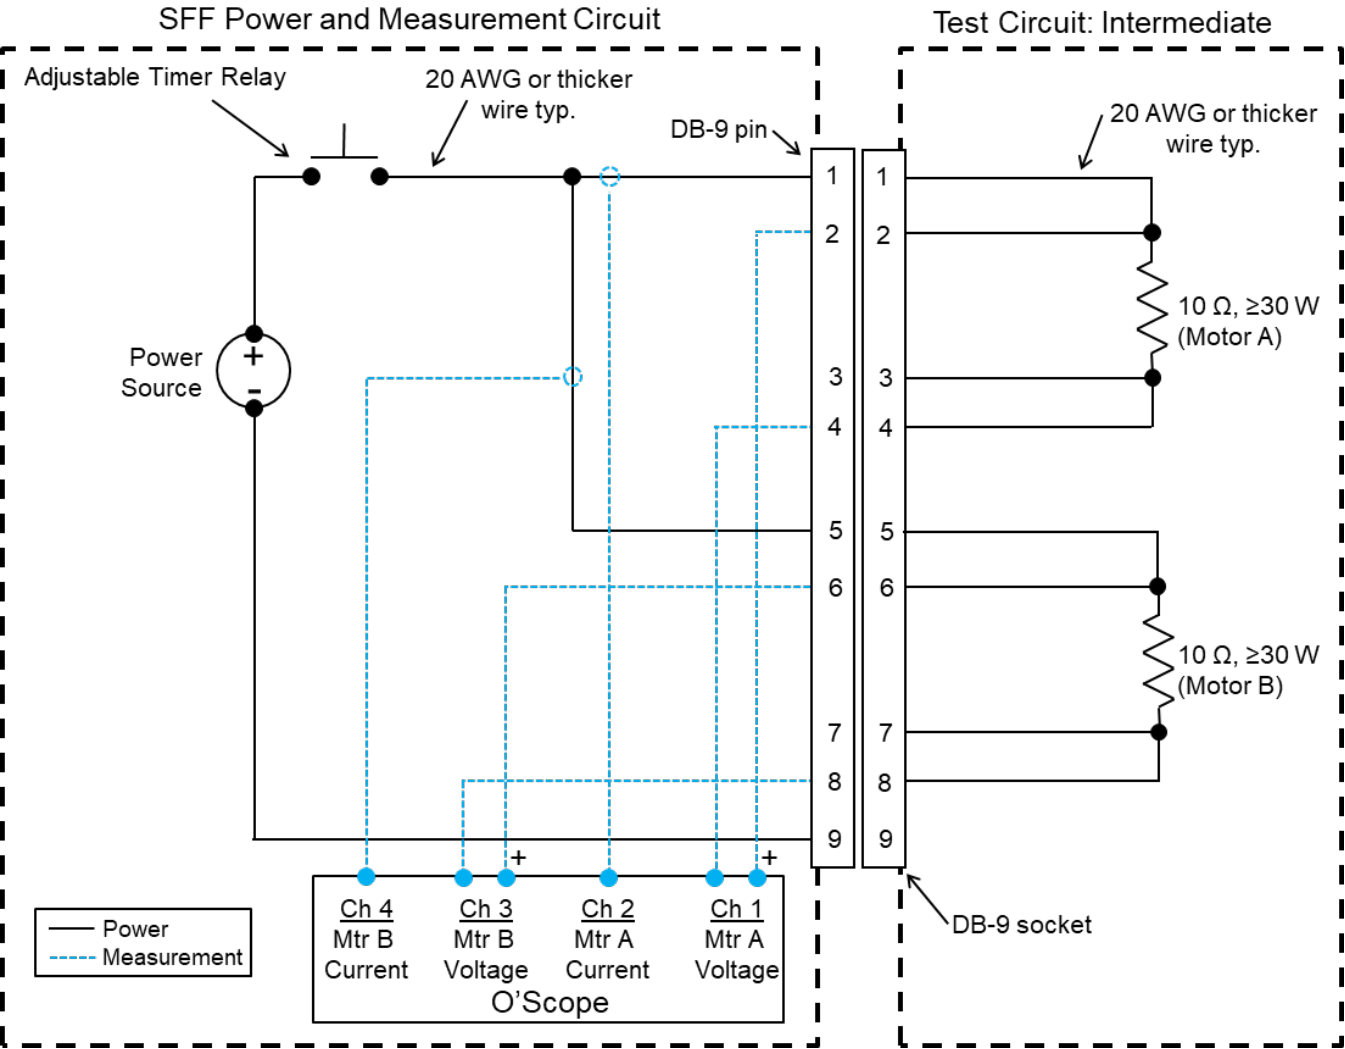

Figure 10-2: SFF test circuit #2
10.2.1	Set up the Test Circuit: Intermediate portion of SFF Test Circuit #2 per Figure 10-2 and connect to the SFF Power and Measurement Circuit .